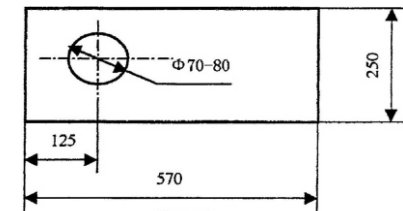

Figure 1
- 4.2.5 After unpacking, the tester shall be placed on a stable bench, take out four leveling screws out of the accessory box and fix them at the bottom of the tester. Adjust the screws until the tester is leveled. The tester's levelness deviation is less than 1 mm/m. A hole shall be drilled at an appropriate location on the bench (see figure 1) to enable the lifting screw to operate properly.